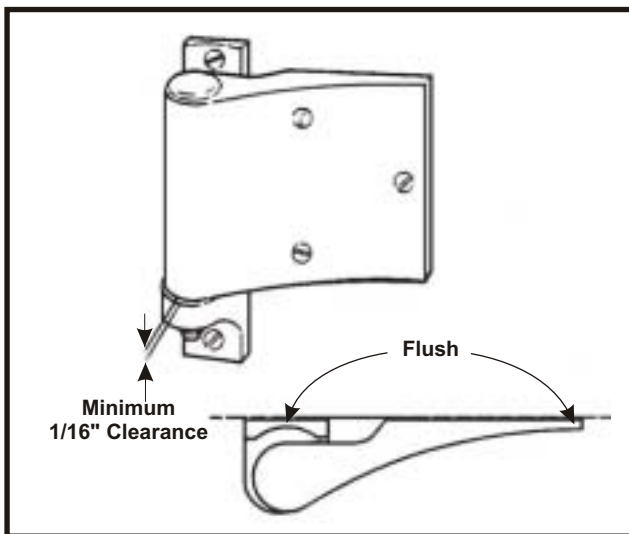

Fig. 1
- A. Hinges shown in Fig.1 are for left-hand swinging doors. A mirror image of this hinge is used for right-hand swinging doors.
- C. Begin by determining whether the hinge is correctly adjusted. When the strap of the hinge is flush with the flange, there must be clearance as shown in Fig. 1. Without clearance, the door may not close. Adjust the hinge by following these steps: